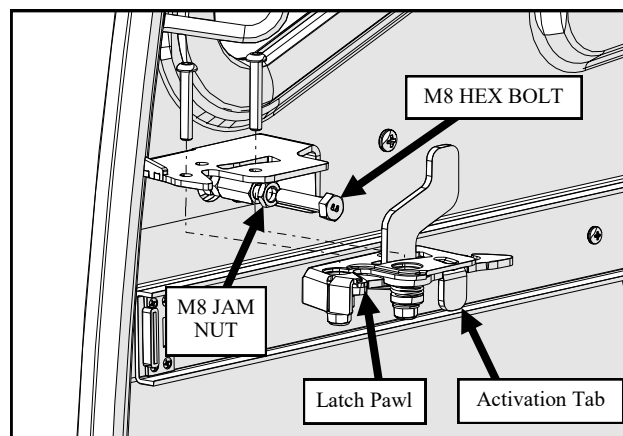

Fig. 2.1 (install new latch - right side)
2.1 By hand, install new M8 Jam Nut and longer M8 Hex Head Bolt into exterior door handle (see fig 2.1), do not tighten with tools. Next, install new latch using new 1/4-20 Button Head Screws and lock nuts provided. Adjust the M8 Hex Bolt until the face of the bolt just touches the activation tab on the latch. Depress the latch pawl with screw driver until it latches. Check to see if exterior door handle properly releases the new latch. Make any further adjustments and tighten down the M8 jam nut.